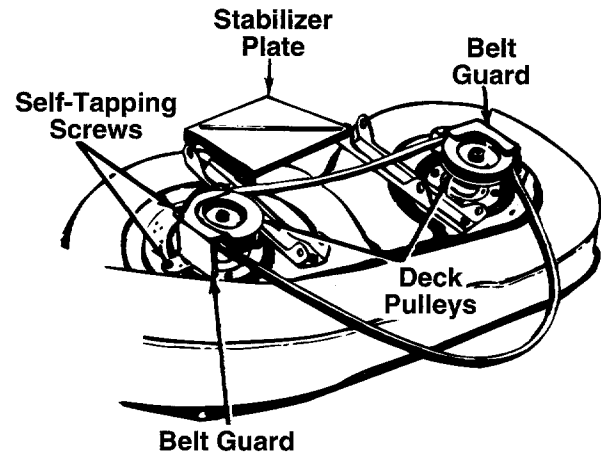

FIGURE 22.
10. Remove the belt guards at each deck pulley by removing the self-tapping screws. See figure 22.